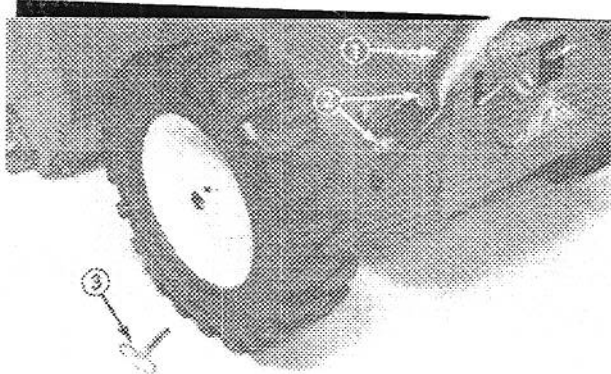

Figure 1
3. Position left handle on side of unit, align handle mount holes with holes in side plate and secure with two flange screws finger tight (Fig. 1).
Note: The wheel retainer pin can be removed and the wheel moved out on the axle to achieve more clearance (Fig. 1).